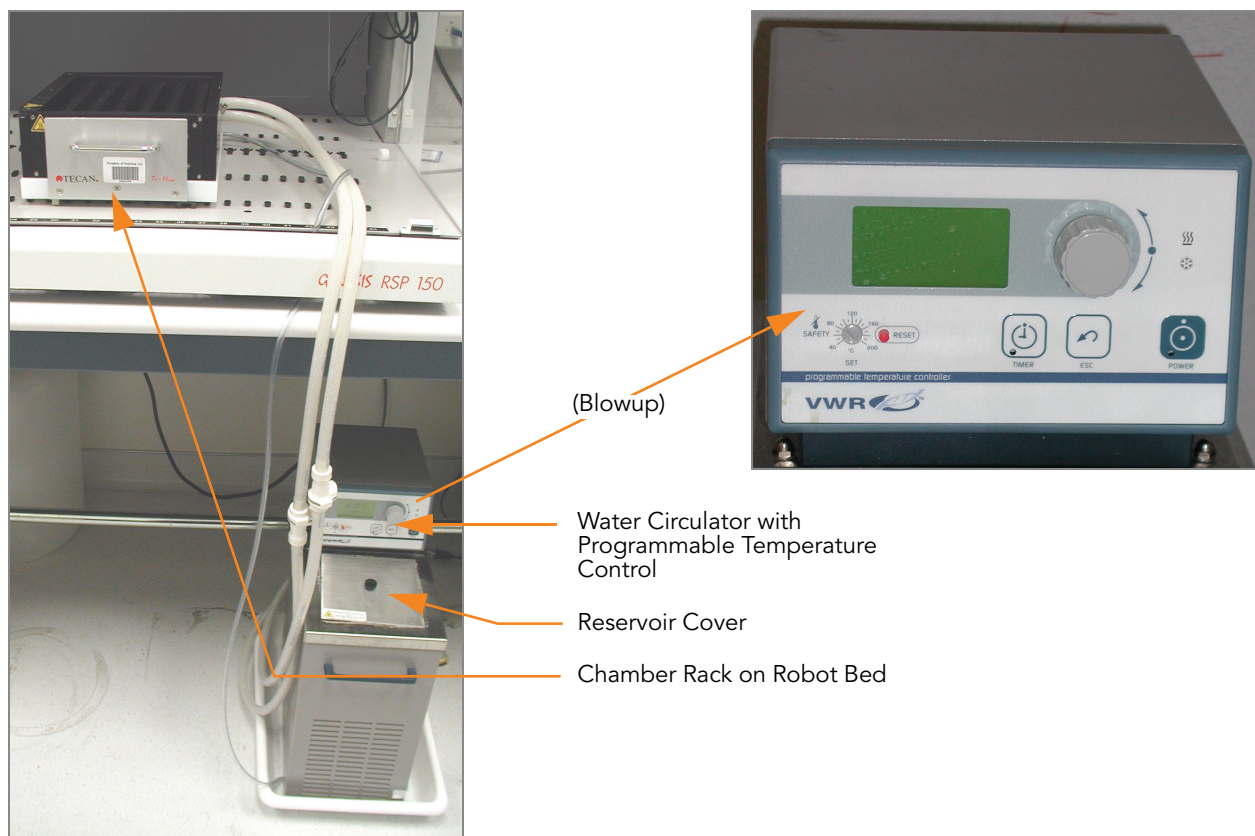

Figure 63 Water Circulator Connected to Chamber Rack
2. Turn on the water circulator and set it to a temperature that brings the Chamber Rack to 44°C at equilibrium (Figure 63).